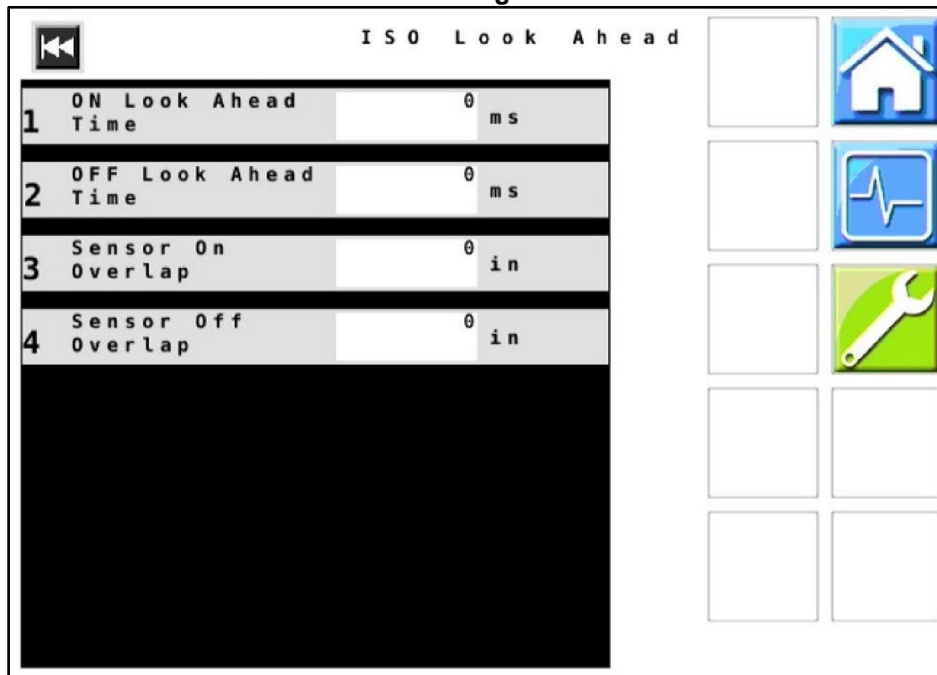

Figure 22 — ISO Look Ahead
39. **Figure 22:** Verify that all values displayed on your unit match those shown here. ISO Look Ahead settings are generally governed by the Task Controller attached. If preferred, the Look Aheads set on the Task Controller can be disabled and these values can be modified to take Look Ahead information from the PinPoint III.